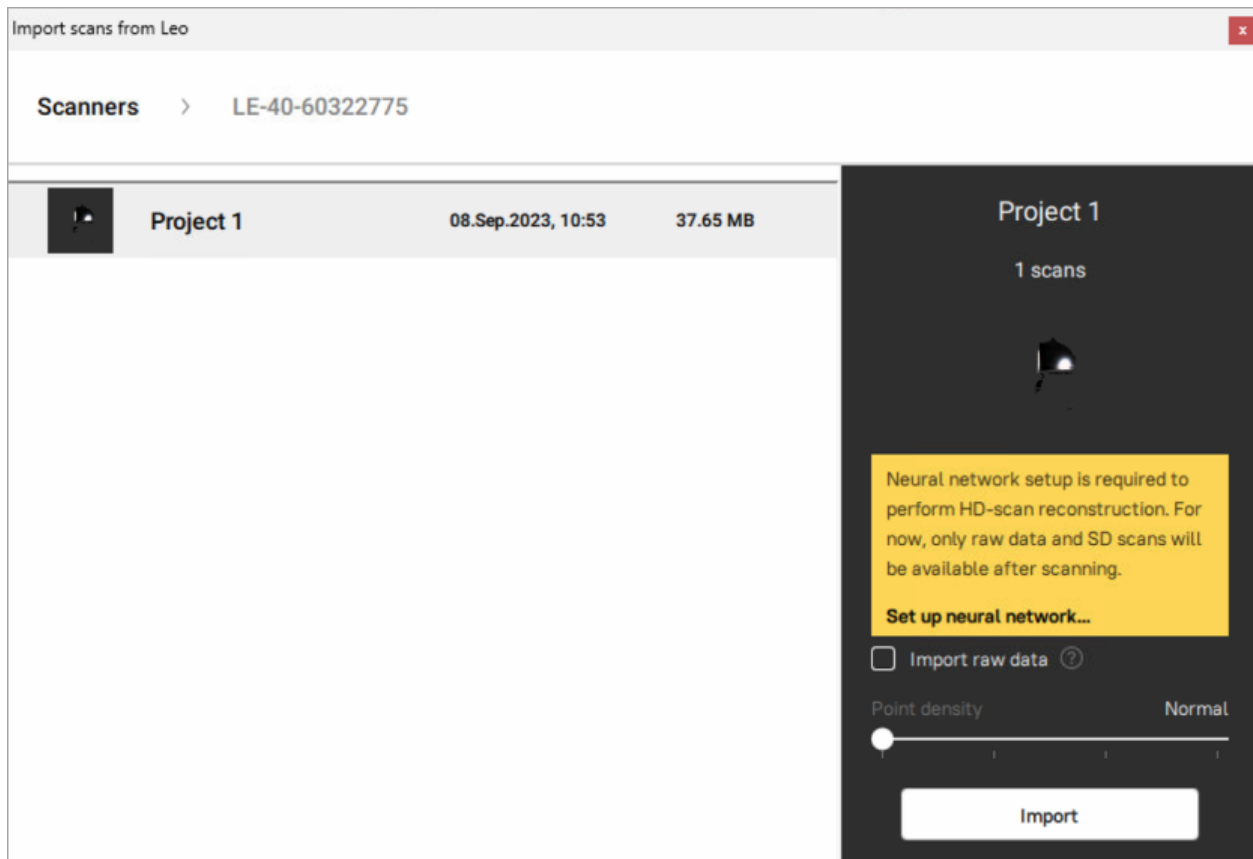

Figure 88: Dialog for selecting Leo projects to import.
5. Then using either **LMB** or **↑** and **↓** select the project that you want to load (Figure 88)